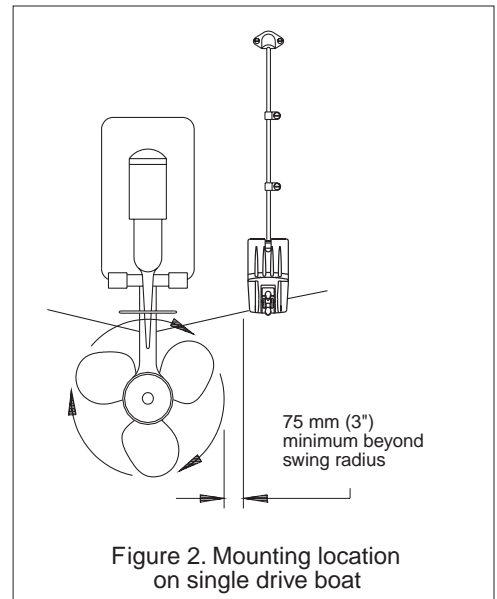

Figure 2. Mounting location on single drive boat
- **Single drive boat**—Mount the sensor on the starboard side at least 75mm (3") beyond the swing radius of the propeller (see Figure 2).